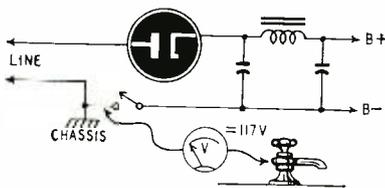

Fig. 1
When the line-cord wire connected to the chassis of the set does not go through the on-off switch, as in Fig. 1, the chassis is energized at all times. It is consequently a shock hazard *even when the set is turned off*. An isolated
**S**ERVICING a wire recorder involves the solution of mechanical as well as electrical problems. Radio set trouble is usually electrical, whereas the recorder may have both kinds of trouble in an average service job. A typical recorder used for office dictation is the Peirce 55B shown in Fig. 1. Initially there is no wire on the right-hand spool. Run the wire from the left spool through the head, down to the right spool, and up clockwise. Secure it to the right spool with a piece of Scotch tape. Set the main selector switch for RECORD and set the timer at zero. Close the mike switch; the recorder will then operate. Allow the spool to wind on wire for about 4 minutes, then reset the timer to zero, and the instrument is set for dictation. Unless this procedure is followed, you may make an overrun on rewind and break the wire, making it necessary to go through the rigmarole of restringing the wire on the drum. Using this method, there will be 4 minutes of winding time to spare; it's unlikely that the average stenographer will daydream for more than a couple of minutes before realizing that the time has come to operate the instrument properly.